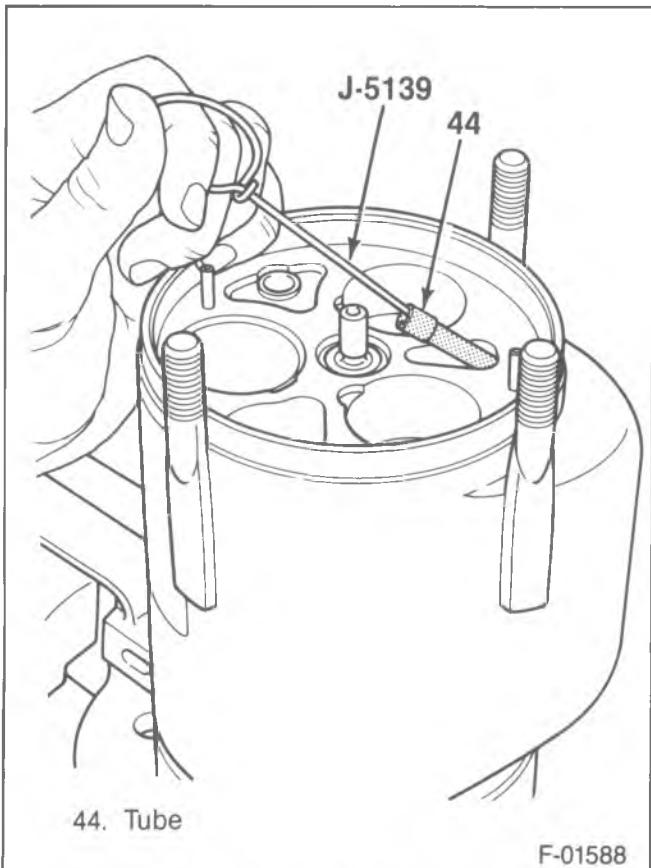

Figure 21—Removing the Oil Pick-Up Tube
- 8. Oil pick-up tube (37) with J-5139 (figure 21).
- 9. Seal (36).